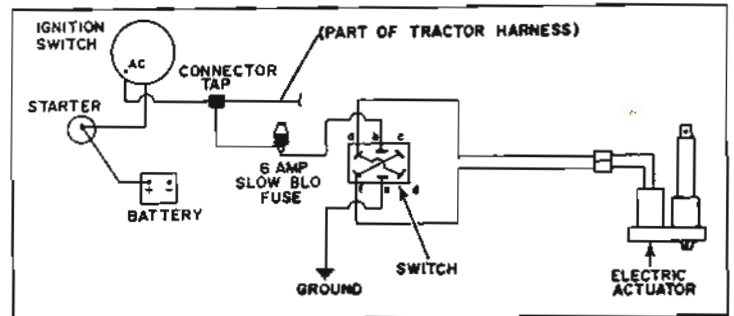

FIGURE 21
- f) Solder one 18" wire to the side terminal of fuse holder and the other 18" wire to the bottom terminal (see figure 21).
- h) Connect eyelet end of 18" wire to "b" terminal on control switch (see fig. 21).
- i) Connect one end of the 17" wire to the "e" terminal on the control switch (see fig. 21). Connect other end to a suitable ground on the tractor frame.
- j) Connect one end of one 5" wire to the "a" terminal on control switch (see fig. 21). Connect other end to the "d" terminal on control switch (see fig. 21).
- k) Connect one end of the other 5" wire to the "c" terminal on control switch (see fig. 21). Connect other end to the "f" terminal on control switch (see fig. 21).
- l) Connect eyelet end of the 102" double wire to the "a" & "f" terminals on control switch (see fig.21).